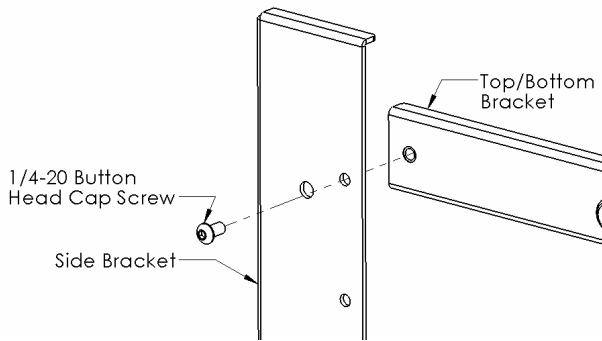
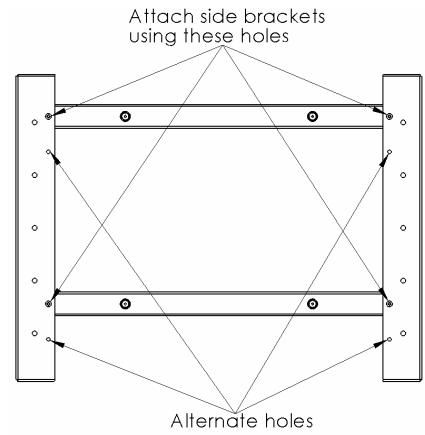

Figure 4
Figure 5
- Using four 10-24 button head cap screws, attach top and bottom to side brackets (see Figure 4 & Figure 5). If needed used alternate holes.